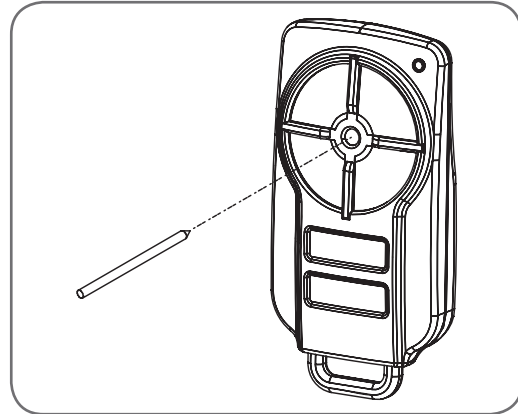

fig 26
- b. Using a small needle, press and hold firmly for two seconds through the Coding Hole (**Fig. 26**).